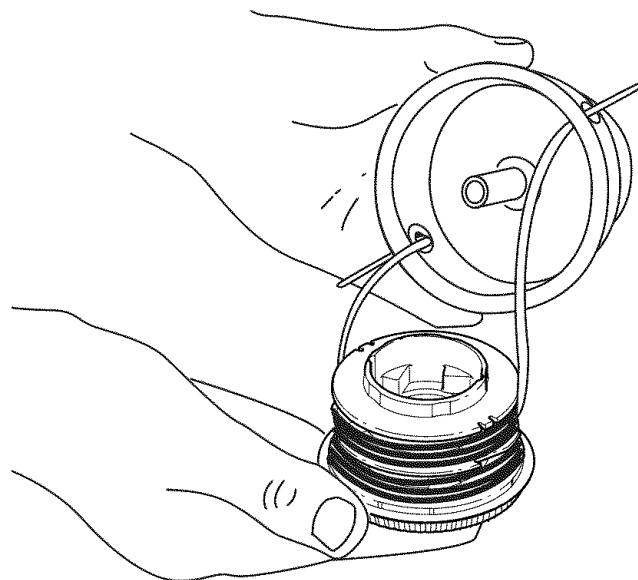

Fig. 24
- Insert the ends of the two trimming lines into the eyelets in the reel housing (Fig. 24), then grasp the ends and pull firmly to release the line from the holding slots in the reel.